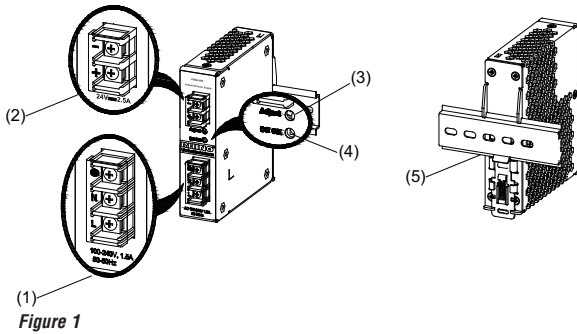

Figure 1
2. Device description (Fig. 1)
5.1. Input connection (Fig. 1, Fig. 5)
Use L, N and GND connections of input terminal connector (see Fig. 1 (1)) to establish the 100-240 VAC connection.
5.2. Output connection (Fig. 1 (2))
The green LED DC OK displays correct function of the output (Fig. 1 (4)).